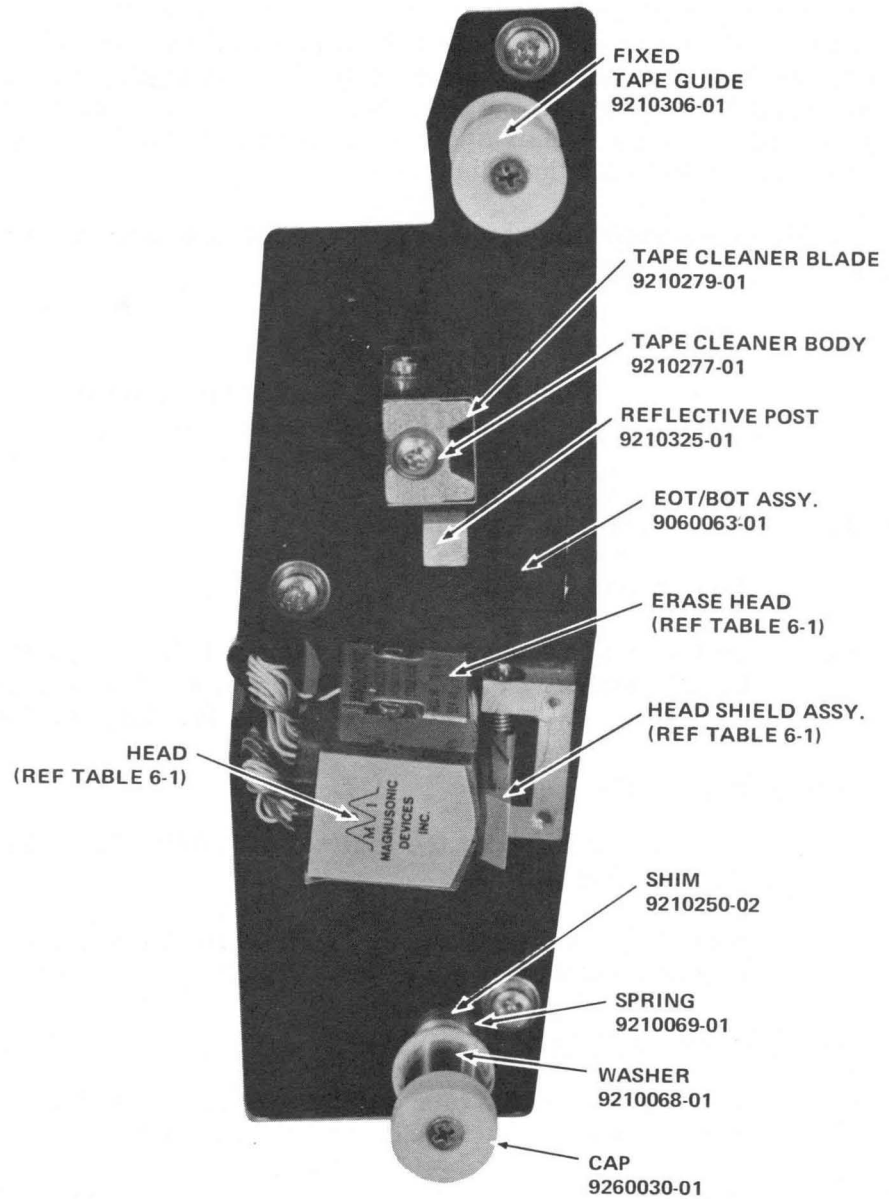

Figure 5-1. Head Assembly
- a. Remove the head covers. Check and, if necessary, adjust the position of the EOT/BOT tape sensor until it is parallel to the tape path. Refer to figure 5-1.
- a. Remove the head covers. Check the position of the EOT/BOT tape sensor and, if necessary, adjust the tape sensor until it is parallel to the tape path. Refer to figure 5-1.
- b. Remove the head covers. Place a dark piece of paper over the reflective block in front of the BOT/EOT sensor. (See figure 5-1.)
- b. Remove the head covers. Place a dark piece of paper over the reflective block in front of the BOT/EOT sensor. See figure 5-1.